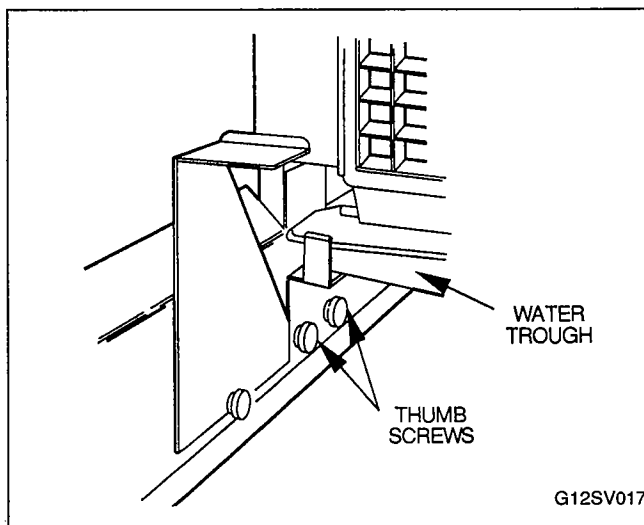

FIGURE 15. REMOVE WATER TROUGH
3. Remove thumb screws and remove water trough (Figure 15).